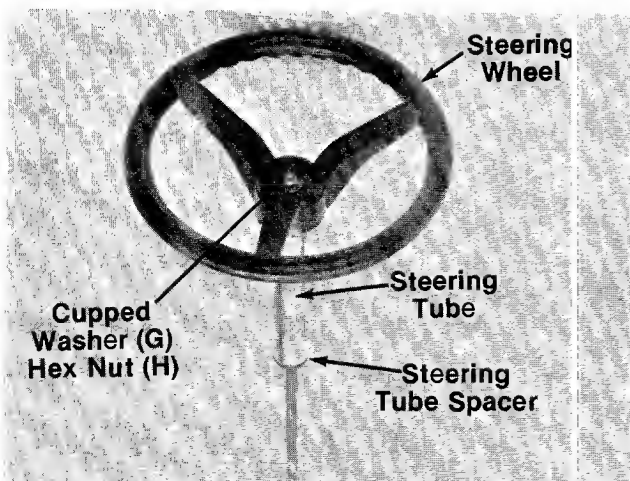

FIGURE 6.—Style A Shown
4. **Style A only**—With the steering shaft in the normal upright position (end with flattened portions up), slide the steering tube spacer and steering tube down over the shaft. See figure 6.
5. Place steering wheel (AC) over the end of the steering shaft, lining up the flattened portions of the steering shaft with the flattened portions of the steering wheel. Make certain steering wheel is seated over the end of the steering tube.
6. Place cupped washer (G) over the steering shaft, with the cupped side of the washer against the steering wheel. Secure with hex nut (H) (5/16" I.D.). See figure 6. Tighten securely.